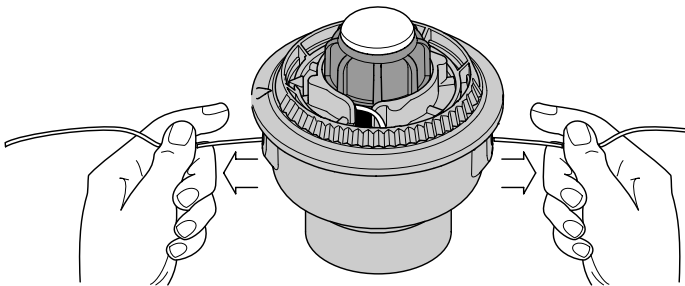

Fig. 21
9. If winding the line becomes difficult or the line jams, pull the ends of the line from the spool (Fig. 21). Continue winding the inner reel counterclockwise.
4. Hold the inner reel in place and install the bump knob, spring and foam seal. Press down and turn the bump knob clockwise. Grasp the ends and pull firmly to release the line from the holding slots in the inner reel (Fig. 21).
If the SpeedSpool® does not release line correctly, pull the ends of the line firmly from the spool (Fig. 21). If this does not release line, follow the **Cleaning the SpeedSpool®** instructions in the **Maintenance and Repair Instructions** section.